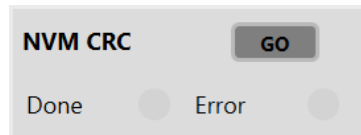

Figure 40: NVM CRC Monitor
42. Figure 40 shows the NVM CRC monitor.